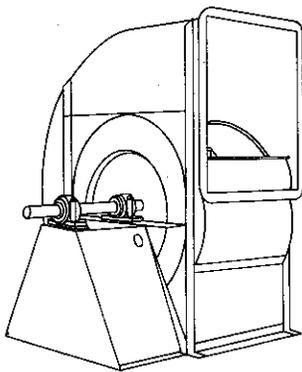

Fig. 9 - Typical Single Width Fan
5.05 Take for an example a single width fan, overhung wheel type as illustrated by Fig. 9 (both bearings on the same side of the fan). Run the fan up to speed and chalk the shaft between the inboard bearing and the fan. Then stop the fan and turn the wheel by hand to see how long and heavy the marks show. The heavy side will throw out so that the marks will show up on the heavy side. A weight is then usually required on the heel of the blade opposite the heavy side or 180 degrees away.